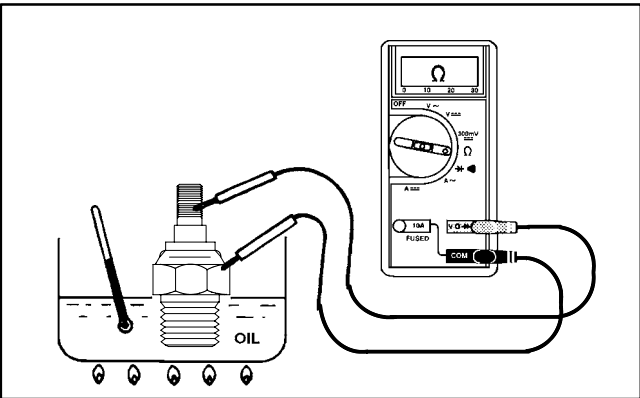

Figure 31
- 4. Put switch in a container of oil with a thermometer and slowly heat the oil (Fig. 31).